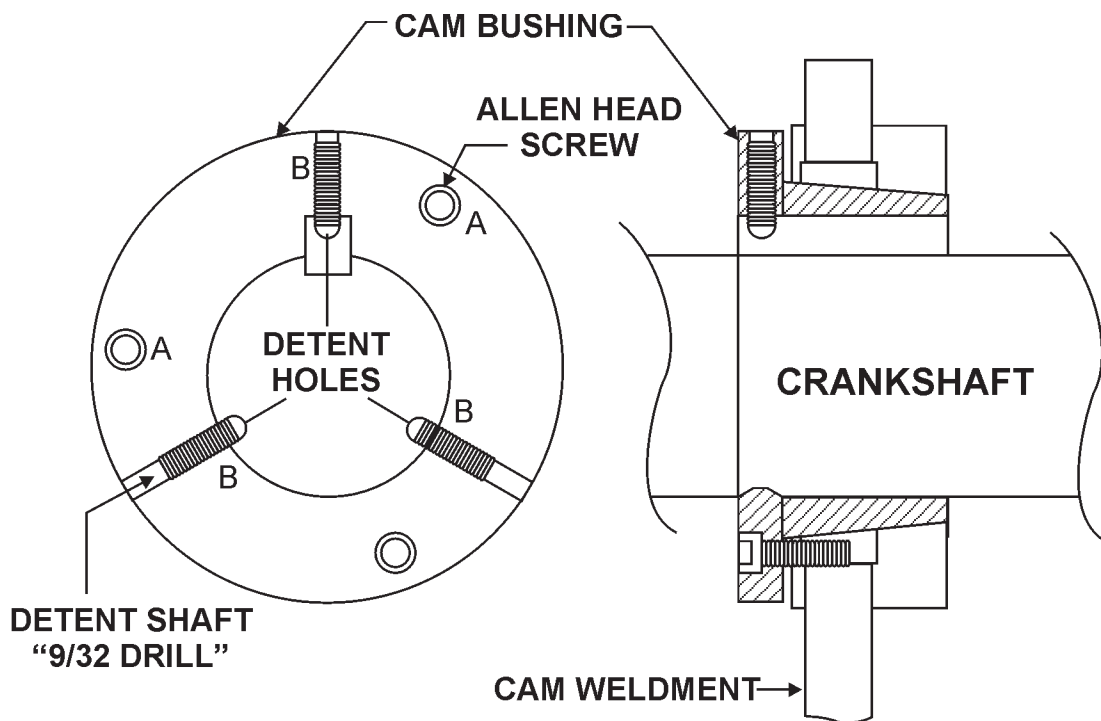

Figure 26. Detent Holes
1. After the bearing assembly has been installed, remove the three "dog type" allen head set screws (B) to allow detents to be drilled. See Figure 26 below.